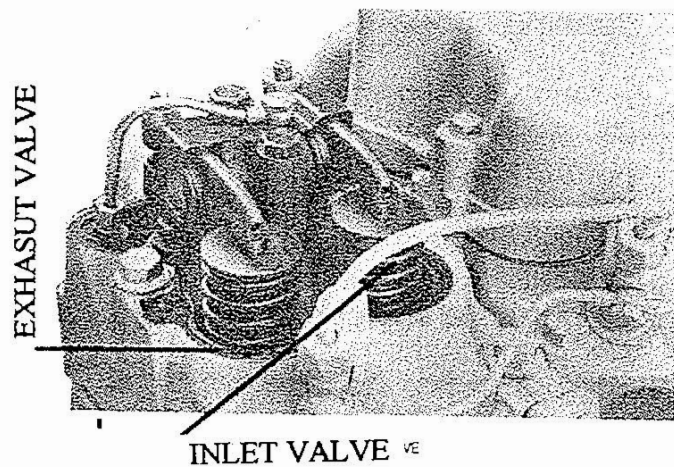

Fig.3.25
a) Check clearance when engine is cold. The designation of valves begins at the fly-wheel end giving alternatively the inlet and exhaust valves (Fig.3.25).